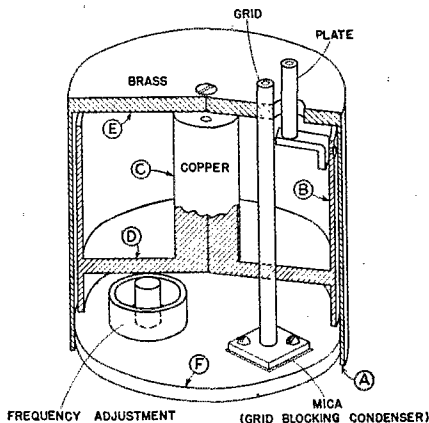

Fig. 1 — Sectional view of the tank circuit.
The basic type of tank circuit used in the oscillators to be described here is shown in section in Fig. 1. This tank circuit is cylindrically symmetrical about the center-line axis and consists
- L₁C — Tank circuit shown in Fig. 1.
- L₂ — Grid rod shown in Fig. 1.